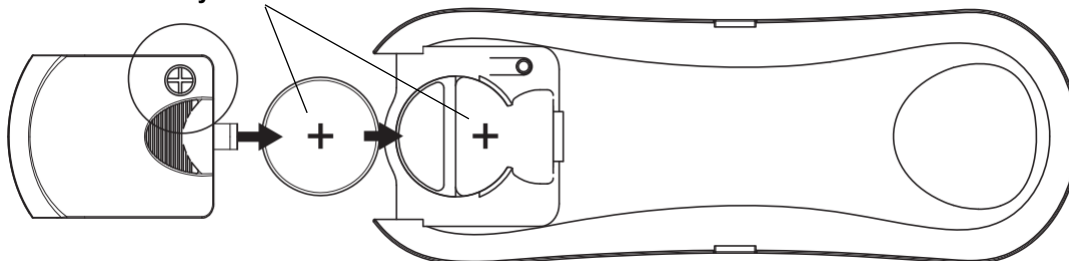

Fig. 12c
3. Install a new 3V CR2032 DC battery in the compartment. Please make sure the polarity of the battery is correct. (Fig. 12c)